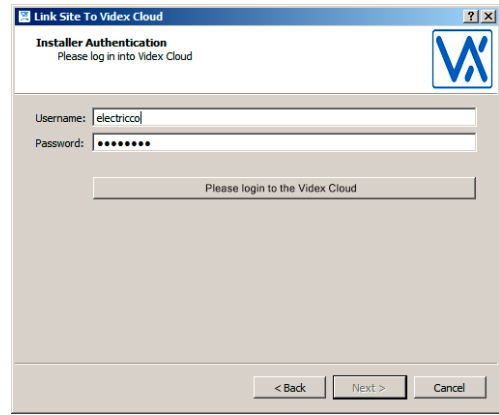

Fig. 37 Login Videx Cloud
- Enter the same username and password used for <https://www.videx-service.it/> web site then click "login videx cloud" (Fig. 37).